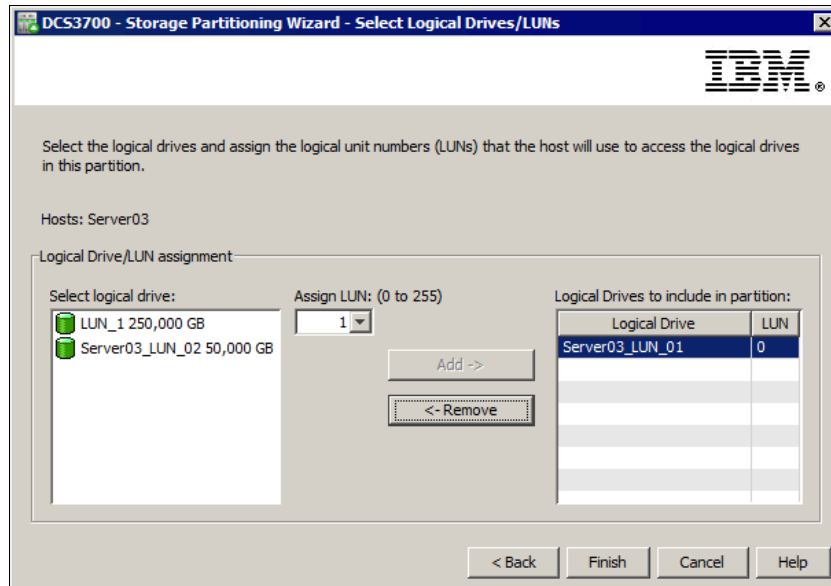

Figure 10-15 Storage Partitioning - Select Logical Drives/LUNs
3. The next window (Figure 10-15) allows you to select the logical drives that are going to be mapped to the host or the host group. Specify a LUN number that will be assigned to selected logical drive and click **Add**. This LUN number is visible in the operating system of the mapped host.